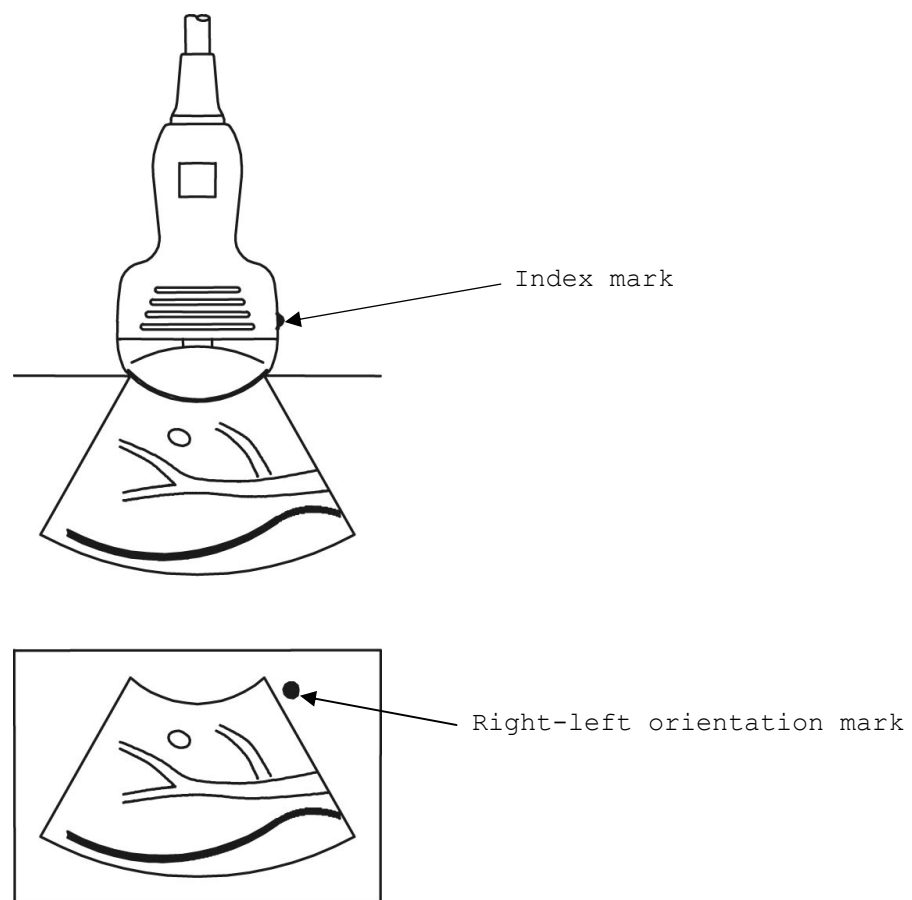

Fig.2 Relationship between Index Mark and Right-left Orientation Mark
- 3) Relationship between direction of the probe and the image is shown in Fig.2. The right-left orientation mark on the image indicates the direction of the index mark on the probe.